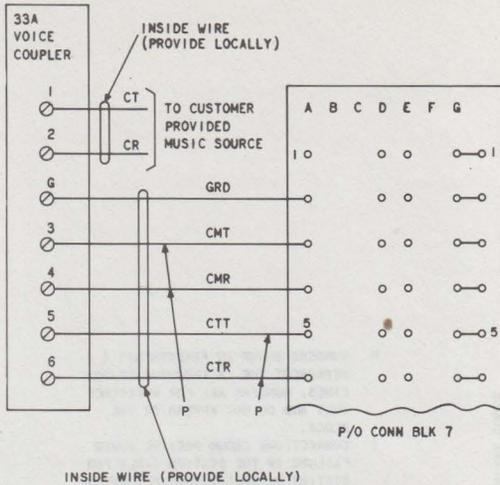

Fig. 23—Connections for 33A Voice Coupler
- (1) Remove cover from voice coupler.
- (2) Mount voice coupler externally to KSU (wherever customer desires).
- (3) Connect voice coupler to 580A KSU as shown in Fig. 23.
- (4) Have customer connect voice coupler to his music source as shown in Fig. 23.